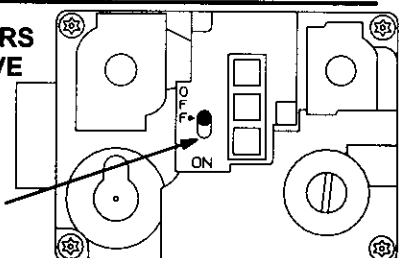

FIGURE 33
Gas Valve Operation (Figure 33)
- 6 - *White Rodgers 36E Gas Valve* - Switch gas valve lever to **OFF**. See figure 33.
Honeywell VR8205 Gas Valve - Turn knob on gas valve clockwise to **OFF**. Do not force. See figure 33.